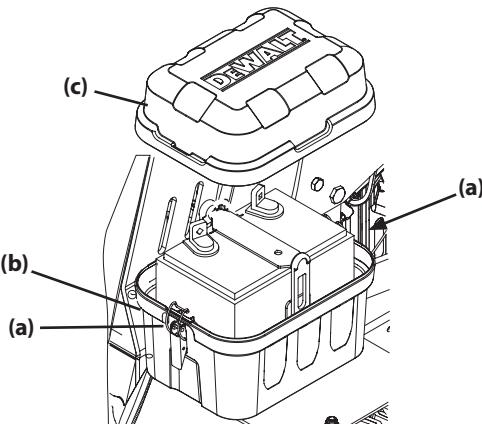

Figure 5
- Release the two latches securing the battery cover (a) to the battery box (b) and remove the battery box lid (c). See Figure 5.